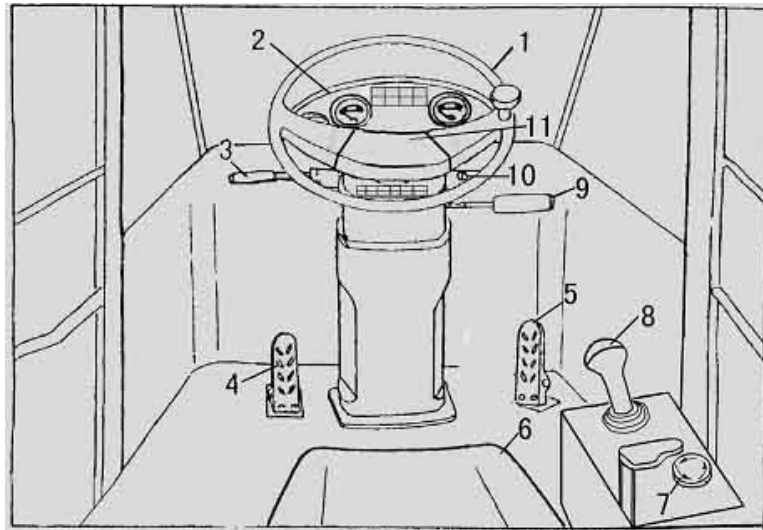

Figure 3-1 General View of Control System (With Two Pedals)
1.1 Control Systems and Gauges Figure3-1、3-2 in this chapter.
Refer to **1.1 Control Systems and Gauges Figure3-1、3-2** in this chapter. The switch controls lighting, high and low beam and steering light.